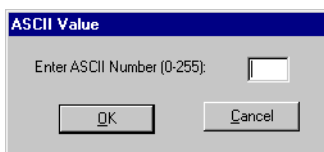

Figure 5.7: ASCII Value dialog box
2. Double-click on *ASCII* from the Special Functions list, and you will see an [ASCII Value] dialog box, similar to the example shown in Figure 5.7.